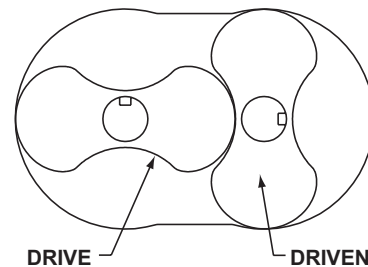

Figure 6-2 – Correct Positioning of Rotor Keyways for Assembly
- Seat the rotors on a fixture with the gear end of the rotors upward and in the "T" position, as shown in **Figure 6-2**. Place a set of 0.006 in. shims on each rotor. Make sure the drive rotor is in the correct location for the proper flow and rotation required for the application.